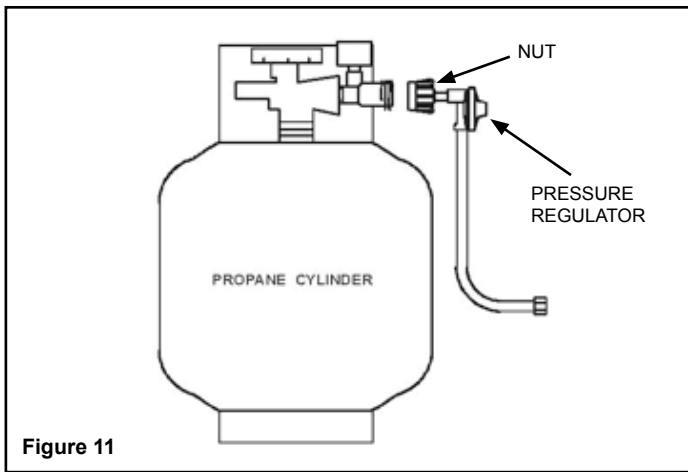

Figure 11
5. When connecting the hose and regulator assembly to the cylinder valve, hand tighten nut clockwise to a full stop (see Figure 11). **DO NOT** use a wrench to tighten because it could damage the Quick Coupling Nut and result in a hazardous condition.